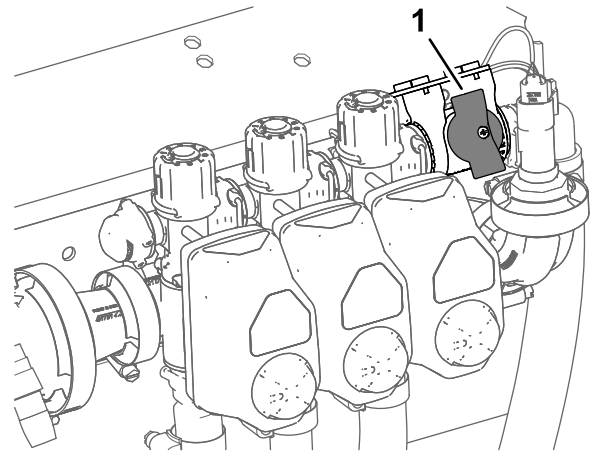

Figure 38
2. Rotate the knob for the section-bypass shutoff valve to the closed position (Figure 38).